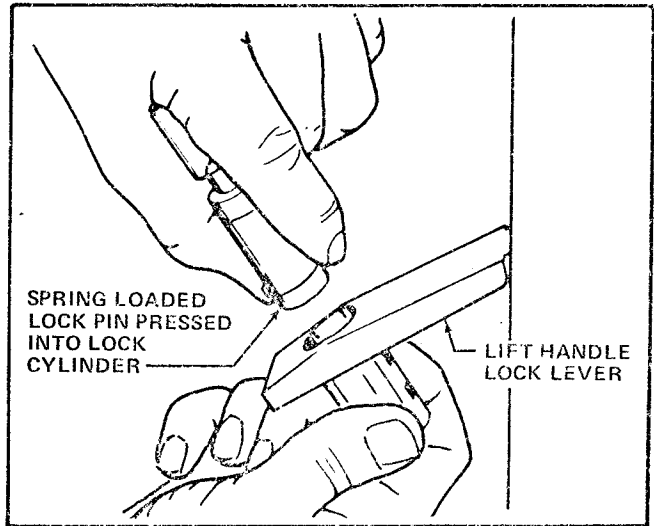

FIGURE 5
3. Raise the Lift Handle Lock Lever and turn the Lock Cylinder so the Spring Loaded Lock Pin is on the bottom. See Figure 5. Press in on the Spring Loaded Lock Pin and insert the Lock Cylinder into the Lock Cylinder Hole of the Lift Handle Lock Lever.